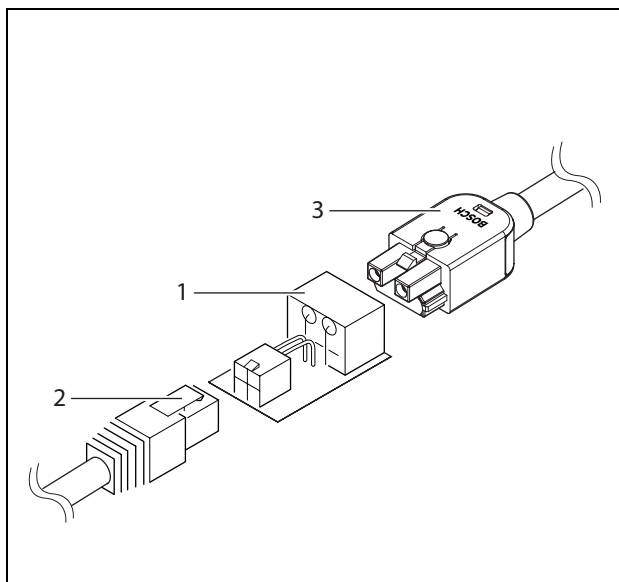

figure 3.4: Connect WAP to power supply
- 2 Connect the WAP adaptor (see figure 3.4, no. 1) to the power supply (no 2), and then insert the WAP adaptor into the connector of the optical network cable (no. 3). See figure 3.4.